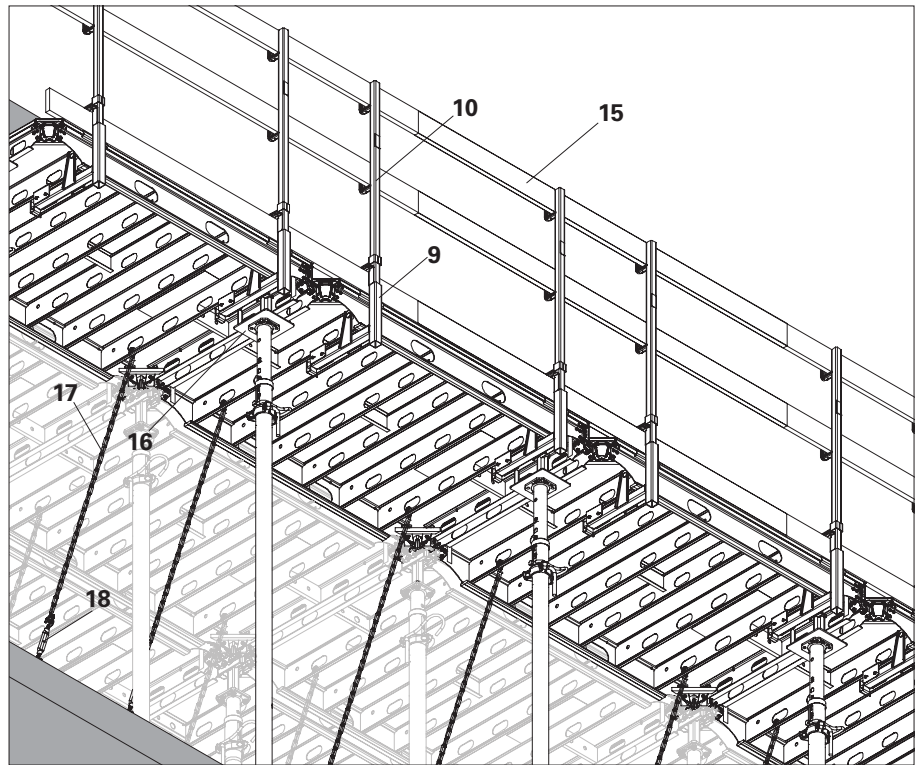

Fig. A10.08
5. Insert the Guardrail post HSGP-2 (10) into the Guardrail holder (9) from top only after it is firmly secured with anchor chains. (Fig. A10.08)
6. Insert Guardrail boards (15) and secure with nails. (Fig. A10.08)